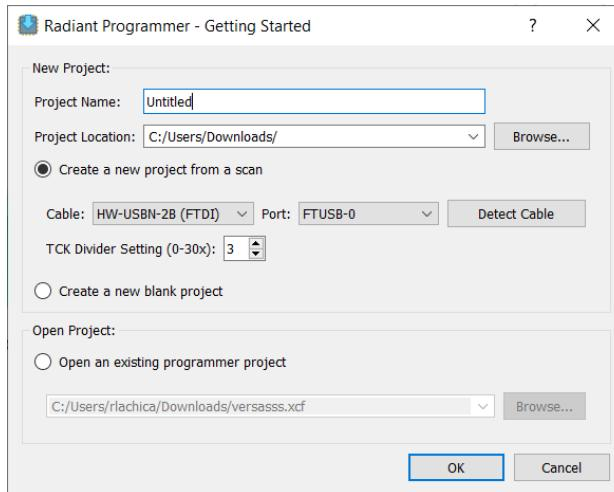

Figure 3.3. Stand-alone Radiant Programmer Opened from Windows Start Menu
3. If the Radiant project is already opened in Lattice Radiant software, click the Radiant Programmer icon  from the toolbar. If the project is not opened, click the **Windows Start** menu and choose **Radiant Programmer** to open the stand-alone Radiant Programmer. The **Radiant Programmer - Getting Started** dialog pops up (Figure 3.3). The default project name is **Untitled**. Enter a desired project name and browse to choose the project location from the **Project Location** area. Click **OK**.